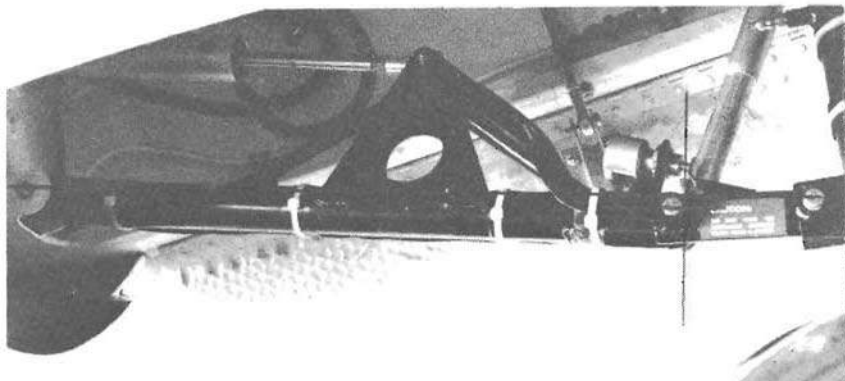

FIGURE 7-1 OVERCENTER REFERENCE
- c. Adjust kick down spring end fittings so that the drag strut is overcenter 1/4" to 5/16" when the spring is fully extended. See Figure 7-1.
- c. Adjust kick down spring end fittings so that when spring is fully extended the drag strut is $1/4"$ to $5/16"$ overcenter. See Figure 7-1.
- b. Adjust right gear limit switch so that switch clicks $1/8"$ to $5/32"$ past the overcenter distance on the drag strut. See Figure 7-1 for overcenter reference.